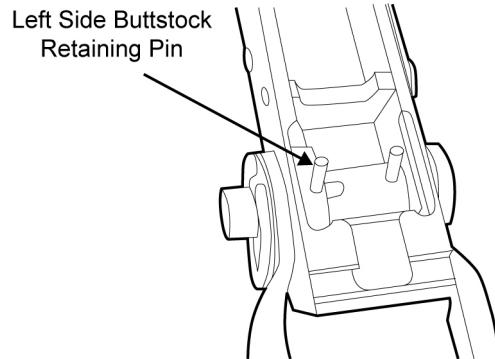

Figure 50. The Left Side Buttstock Retaining Pin Installed.
g. Using a punch as a slave pin inserted from the bottom of the receiver, ensure that the holes in the buttstock catch, slots in the buttstock axle, holes in the release button, and holes in the axle pivot are aligned. When aligning the parts, ensure that the buttstock release spring is on the right side of the pin. Insert the buttstock retaining pin through the top of the buttstock catch, ensuring that it is threaded through both sides of the buttstock catch. Refer to Figure 50.